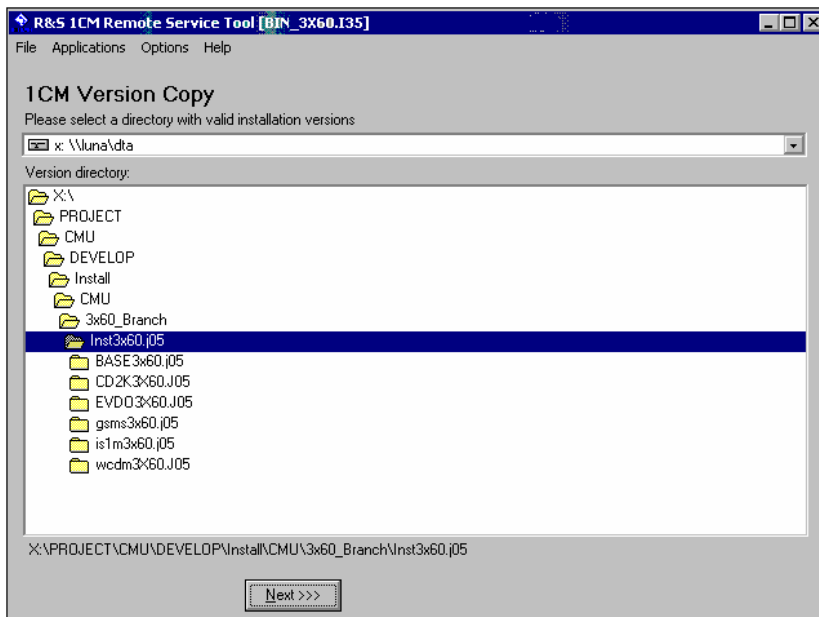

Fig. 1-9 Remote Service Tool main screen (example)
**Note:** *When copying an installation version to a CF / PCMCIA card or floppy, ensure that all folders containing a base system version or network option (the lowest-level folders in Fig. 1-9 below) are in the root directory. Otherwise the R&S CMU will not be able to detect the firmware and start the installation. If a Versions.new text file (see section File Versions.new on p. 1.28 ff.) is used, it must also be in the root directory of the external storage medium.*